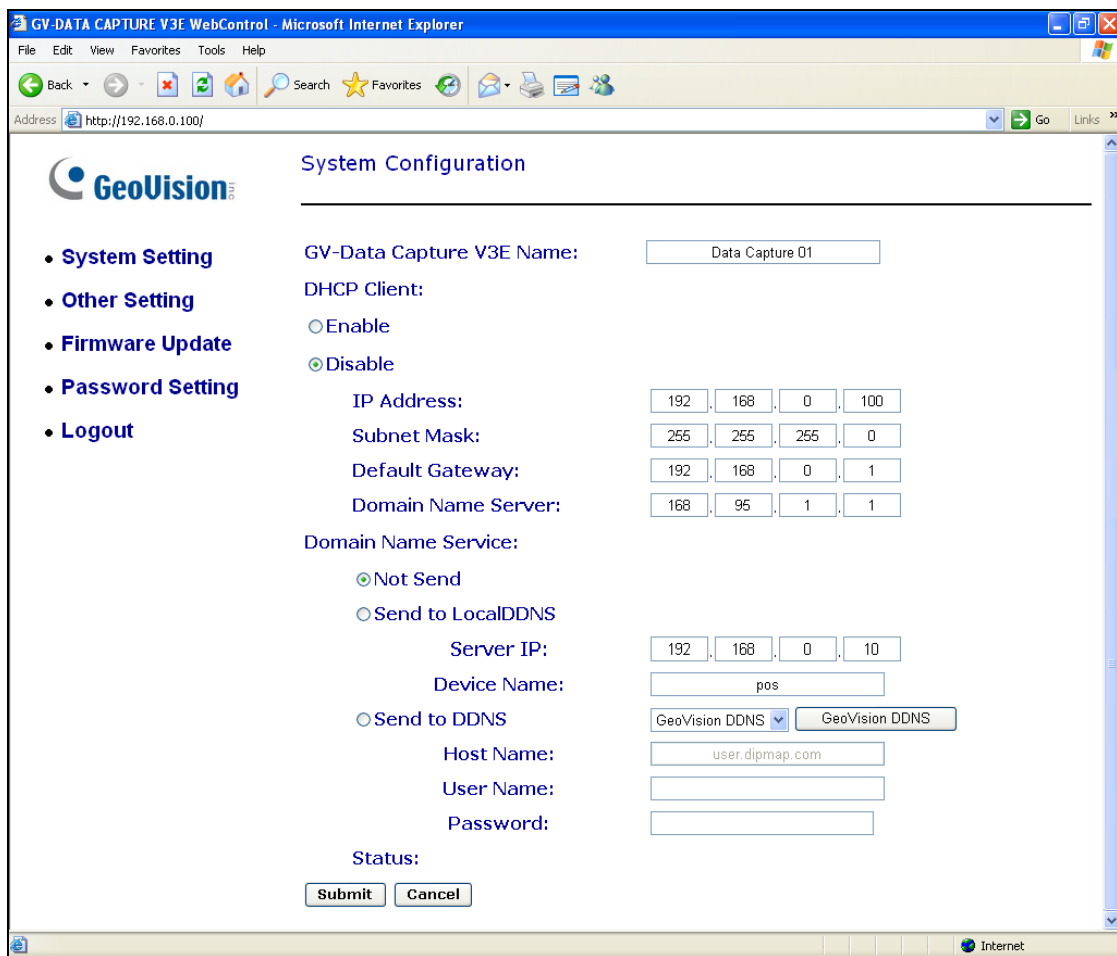

Figure 10
2. In the User Name and Password fields, type default value **admin** and **1234** respectively, and click **OK**. The GV-Data Capture V3E WebControl page (see *Figure 10*) appears.
1. In the left menu pane, click **System Setting**, and then click the **GeoVision DDNS** button (see *Figure 10*). Or open an Internet browser, and type the web address <http://ns.dipmap.com/register.aspx>. This page appears.
1. Follow the Steps 1 to 2 in 4.1.1 Fixed IP above. The GV-Data Capture V3E WebControl page (see *Figure 10*) appears.